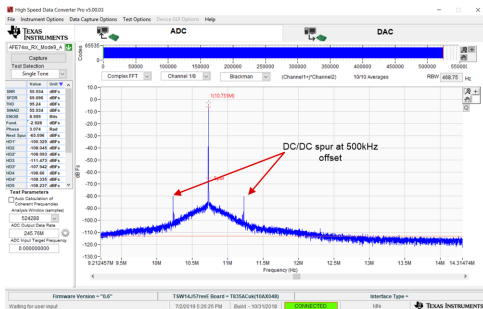
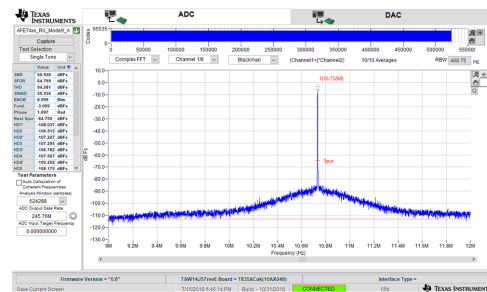

Figure 3. RX Performance after Removing LDO from Analog Power Rails
Figure 5. RX Performance After Adding Filters at Analog Power Rails
Figure 3 shows receiver performance of the AFE7444 when only a DC/DC regulator is used. Once LDO is removed from analog supplies, spurs at frequencies ($F_{in} \pm 500$ kHz) appears in the spectrum, resulting in SNR and SFDR degradation. Note all DC/DC converters are operating at 500 kHz.
Figure 5 shows the RX performance after adding filters on the analog supplies. It is seen that DC/DC spurs becomes unnoticeable after addition of the small filter at the analog power rails. The AC performance achieved is close to EVM performance that uses LDO for analog supplies. See the Low-noise power-supply reference design maximizing performance in 12.8-GSPS data acquisition systems for more details
*RX SNR looks smaller compared to datasheet because of bin near DC and Fin is not notched in **Figure 3** & **Figure 5***